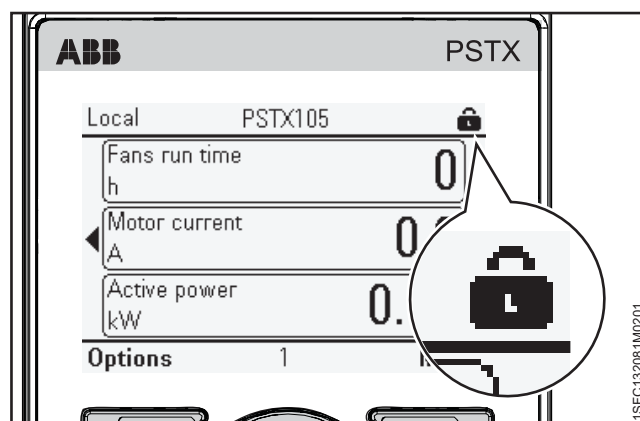

Figure 6.10
1. Lock / Unlock keypad, See **Figure 6.10**